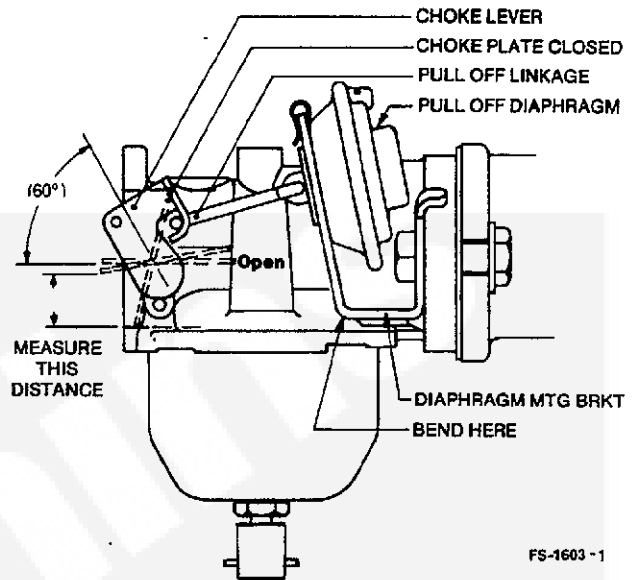

FIGURE 6-26. CHOKE PULLOFF DIAPHRAGM
3. Apply light finger pressure against the choke lever to take up all free play in the pulloff linkage (see Figure 6-26).
5. Measure the distance between the choke plate and the bottom of the carburetor at the point indicated in Figure 6-26. If necessary, bend the diaphragm mounting bracket to obtain 0.39 to 0.43 inches (9.9 to 10.9 mm) clearance.